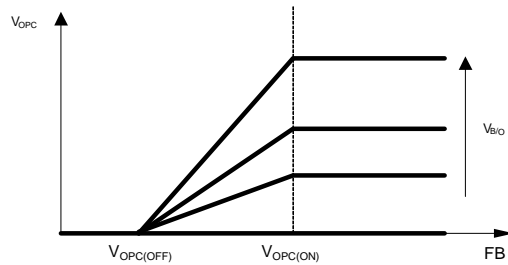

Figure 7: Compensation Current vs. FB and B/O Voltage
An offset voltage proportional to the B/O voltage is added to the sensing voltage. The B/O voltage is proportional to the input voltage. Figure 7 shows the compensation in relation to the voltage on FB and B/O. The over-power compensation (OPC) voltage (V_{OPC}) can be calculated using Equation (4):